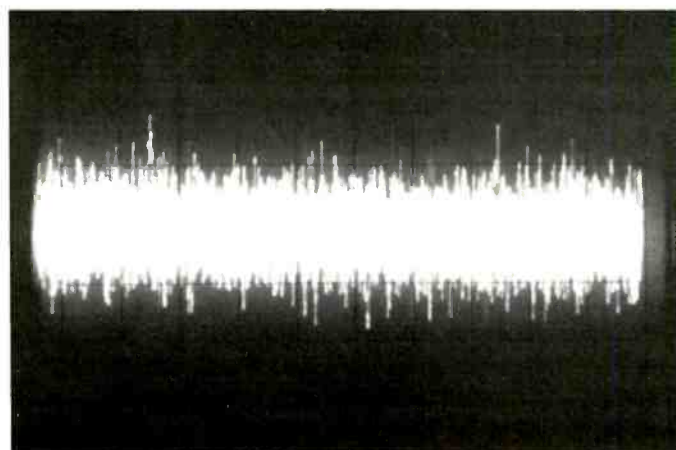

Figure 6. The tracking error signal from the RF amplifier is fed to the Focus/Tracking Servo IC.
Check the schematic and parts layout for a tracking error (TE) test point. Often, the TE test point or lug is found near a FE test point (Figure 6). If the TE signal is found at this point, proceed to the input terminal of the tracking servo IC.